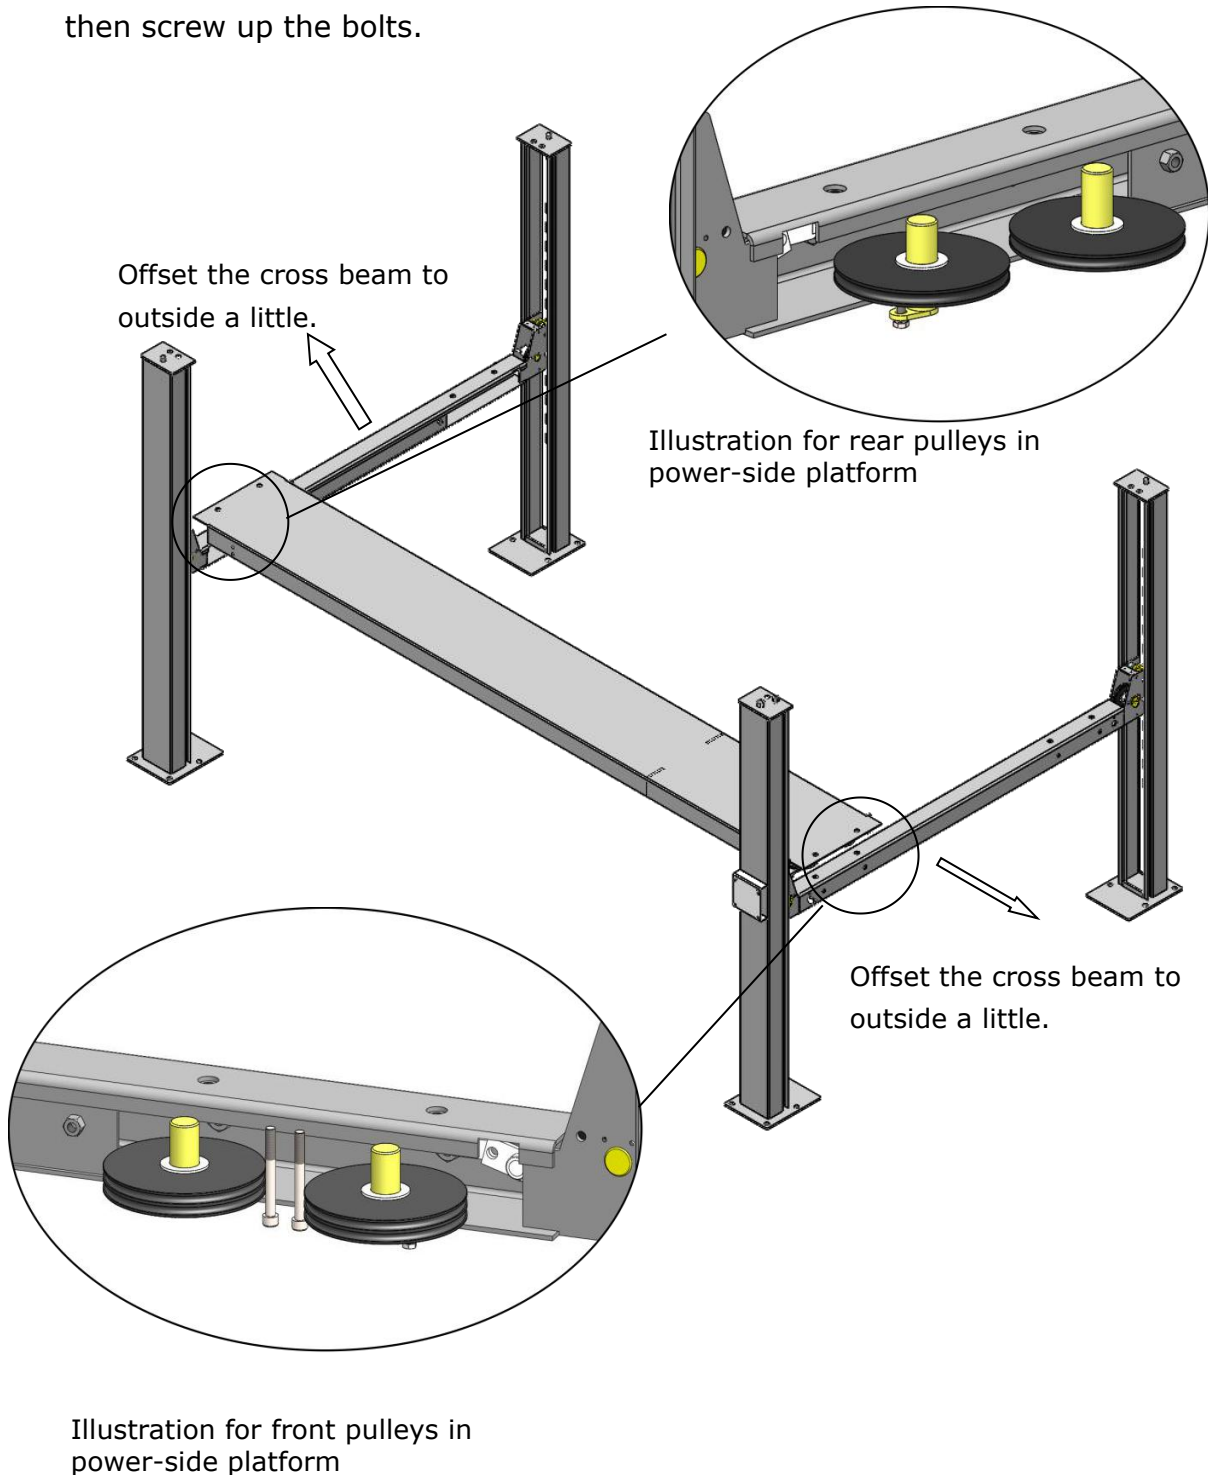

Fig. 17
1. Install the power-side platform on the cross beams by a fork lift or manual, offset the cross beams to outside a little until the pulleys of both platforms enter into the cross beams opening (**See Fig.17**). Aligning holes on the power-side platform and cross beam, then screw up the bolts.